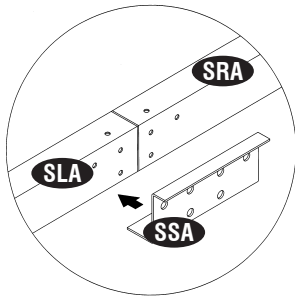

Fig.1
10. Insert two pieces of (TS) Top slider into the sliding channel. See blowup.
11. Place the sliding channel support (SSA) in between the sliding Channels (SLA) & (SRA). Align the holes with sliding channel and secure with (S1) screws. See fig. 1 & 2.